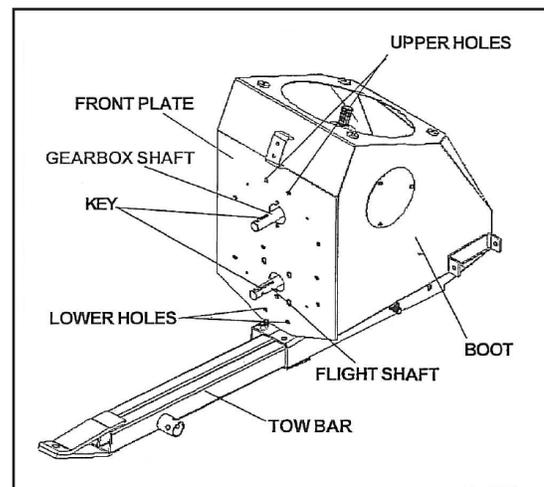

Figure 1
**NOTE:** Don't remove the keys from the flighting or top gearbox shaft. Make sure there is nothing left on the front plate of the boot (see Figure 1).